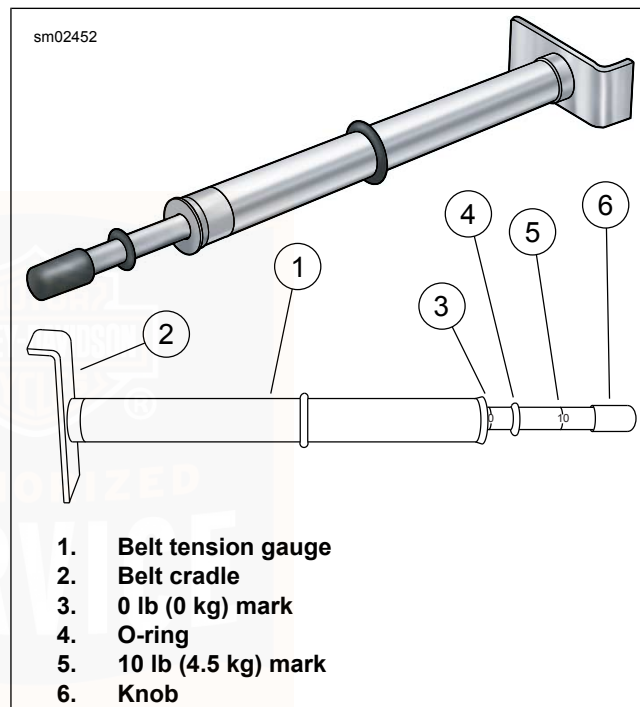

Figure 73. Belt Tension Gauge
3. See Figure 73. Measure belt deflection using: